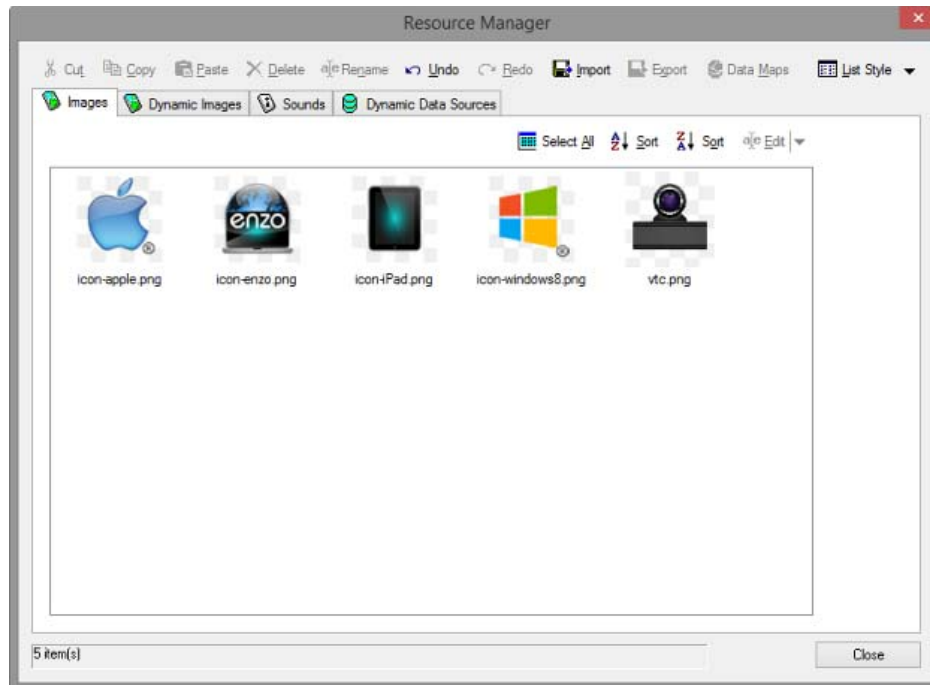

FIG. 9 Resource Manager Images tab - DragAndDropNoGroups Demo images imported
4. Click **OK** to import the selected files and return to the Resource Manager (FIG. 9):